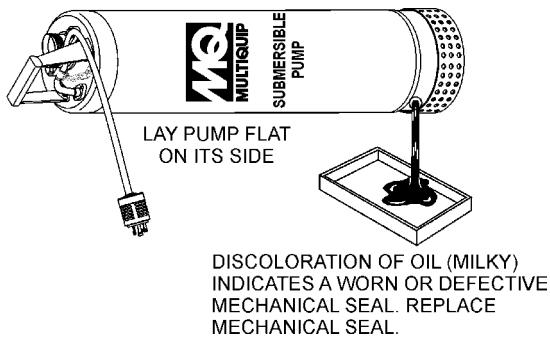

**Figure 21. Adding Lubrication Oil**
1. Lay the pump (Figure 21) on its side with the oil plug facing upwards.
2. Use a funnel (Figure 21) and fill oil cavity with ISO VG32 lubrication oil or equivalent. Pump oil cavity capacity is 300 cc. Fill to 75-80% capacity to allow for expansion. Replace lubrication oil every 6 months (1,000 hours) or as needed.